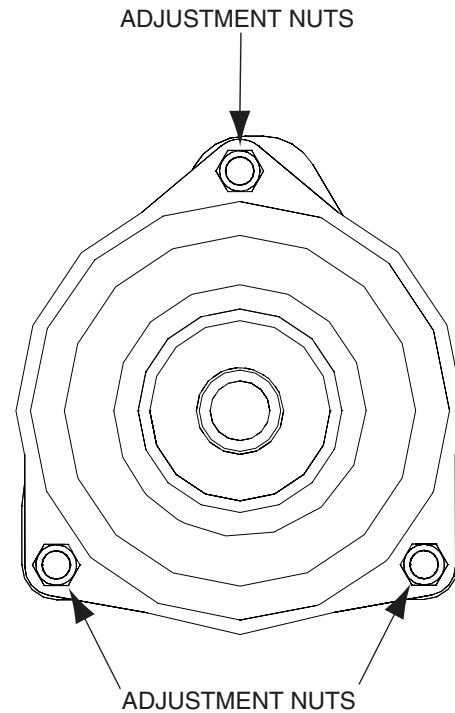

Figure 6-10. Clutch Air Gap Adjustment
3. Tighten or loosen the adjusting bolt as needed to achieve the 0.015 inch airgap. See Figure 6-10. Perform this operation at all three inspection windows.